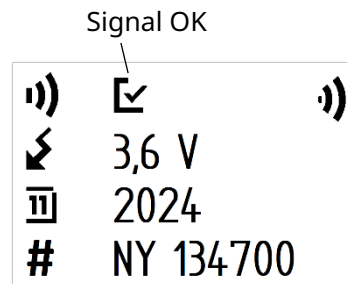

Figure 12: Measurement Screen example (Novega) with Signal OK-symbol
- The Signal OK-symbol  appears after the Ulyser has received three pulses (Figure 12). Please note the pulse repetition rate of the ULD.